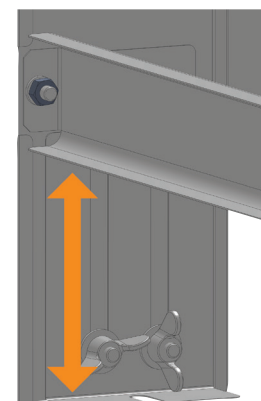

Figure 5: Adjust cabinet height
5. Loosen the wingnuts and raise or lower the foot adjustment brackets to adjust the cabinet height (see **Figure 5**). Be sure to account for the finished floor height.